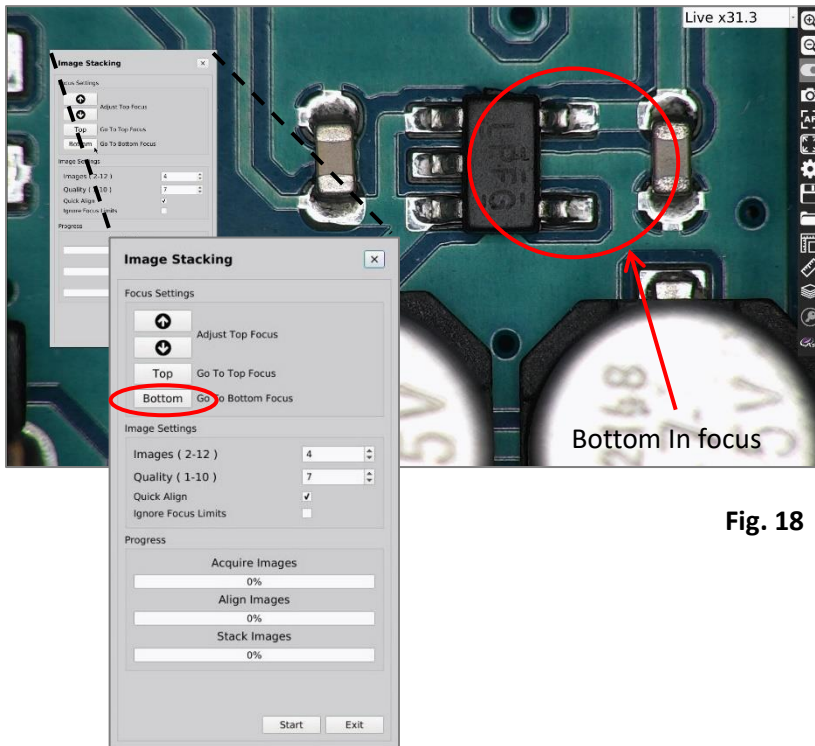

Fig. 18
2. Click on the **Go to Bottom Focus** button and then manually adjust the height of the camera until the bottom of the image is in focus (Fig. 18).